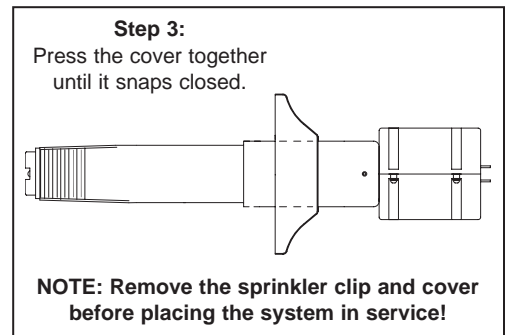

Figure 3
- c. Snap the two pieces of the cover together over the sprinkler frame (Figure 3).